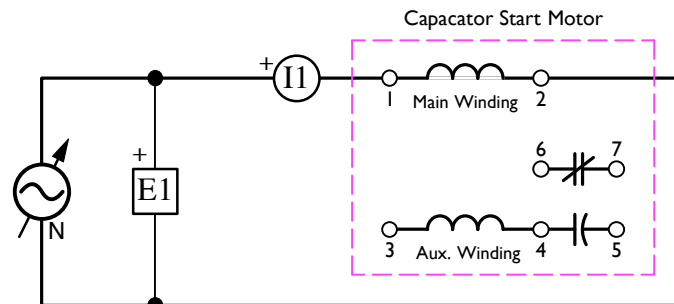

Figure 4.16: Capacitor Start Motor – Main Winding Only
43. Construct the capacitor start motor circuit shown in Figure 4.16.